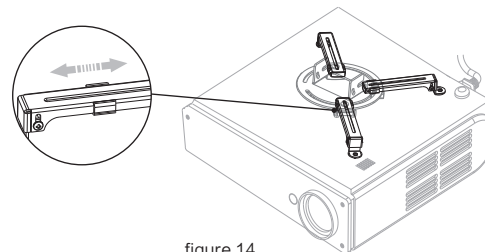

figure 14
2. If there are 3 holes, the installation arms (4-3) need to be taken apart from installation bracket firstly. Connect 3 installation arms (4-3) to the projector, and then connect the installation arms (4-3) to the installation base (4-6) However, the installation base needs to be the center of projector. Figure 14.